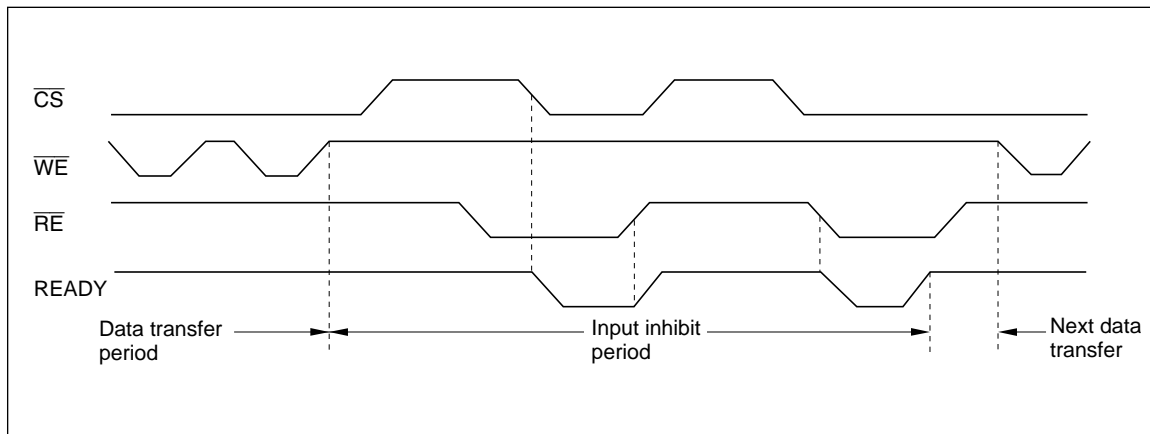

Figure 15 $READY$ Output Timing (When It Is Made Available by \overline{CS} and \overline{RE})
- b. READY is made available by \overline{CS} and \overline{RE} (figure 15).